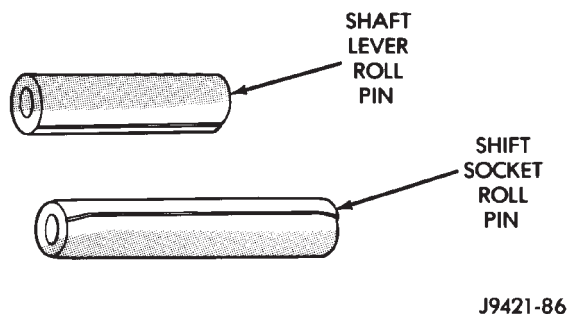

Fig. 109 Roll Pin Identification—Shaft Lever And Shift Socket
(9) Select correct new roll pin for shift shaft lever (Fig. 109). Shaft lever roll pin is approximately 22 mm (7/8 in.) long. Shift socket roll pin is approximately 33 mm (1-1/4 in.) long.